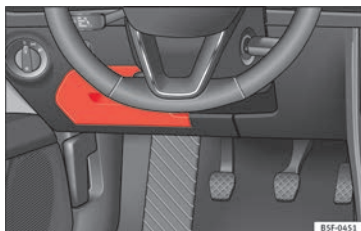

Fig. 101 On the driver-side dash panel: fuse box cover.
- *Opening*: fold the cover down » **Fig. 101**.